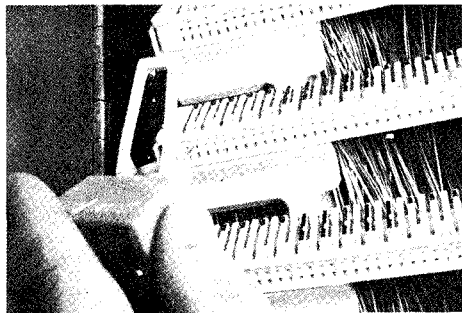

Fig. 12 — Installing Test Probe
6.01 The method of placing the test probe is shown in Fig. 12.